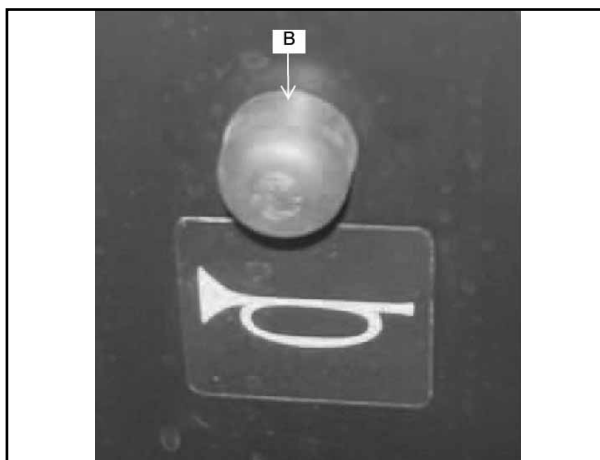

FIGURE 29
The horn button (B) is located on the instrument panel as shown in figure 29. The horn button is always active. Pressing the horn button will sound the horn.